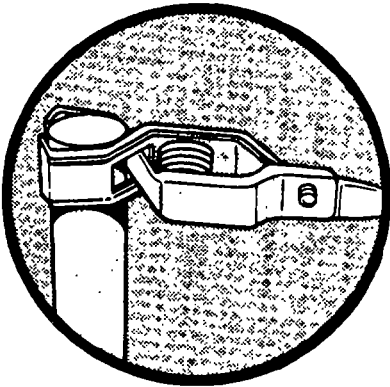

Figure E-4. Clamp Connected to Ground Rod
Step 7 - Attach an electrical clip to the other end of the 20-foot cable. Connect the clip to the ground rod made in Step 6 (Figure E-4).